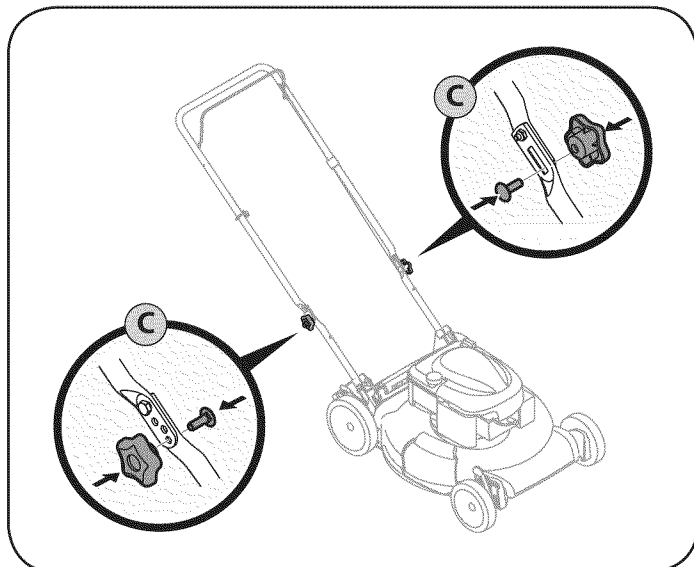

Figure 5
- C. Reattach wing nuts and carriage bolts removed earlier into lower holes of handle as shown in Figure 5.